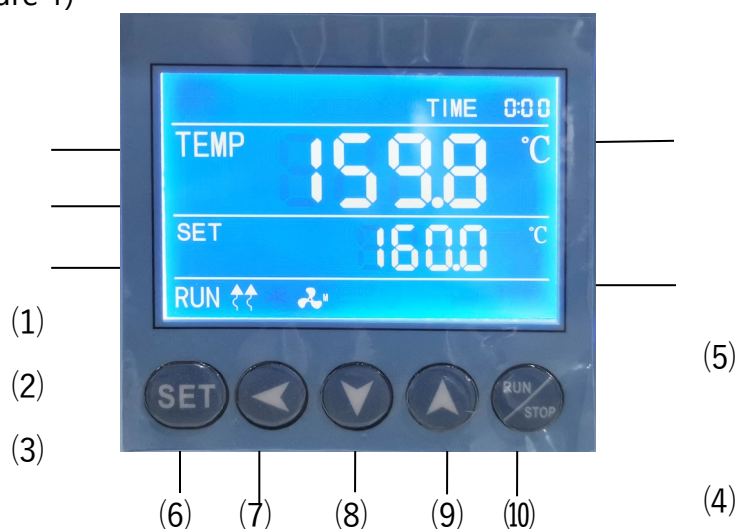

Figure 1
- 2.3 The controller enters the working mode after about 4 seconds of self-checking procedure (Figure 1)